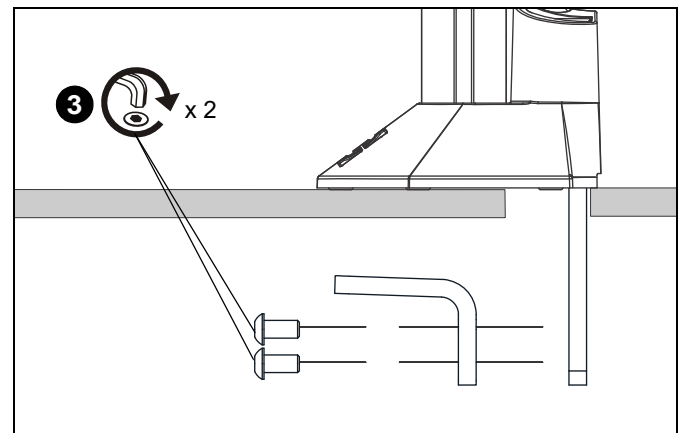

Figure 4
3. Reattach removed piece of clamp and screws to assembly. (See Figure 4)
4. Tighten clamp using clamp screw until mount is securely fastened to desk. (See Figure 4)